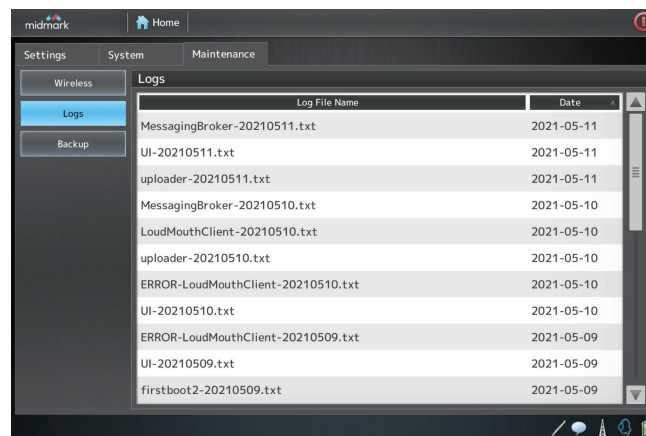

Figure 18. Maintenance — Logs
- When the user presses the **Initiate Backup** button, the pop-up shown in Figure 18 will continue to display regardless of the backup status. The completion status is **only** viewable by the Technical Support representative. Do not shut down the system until directed to do so by the Technical Support representative.